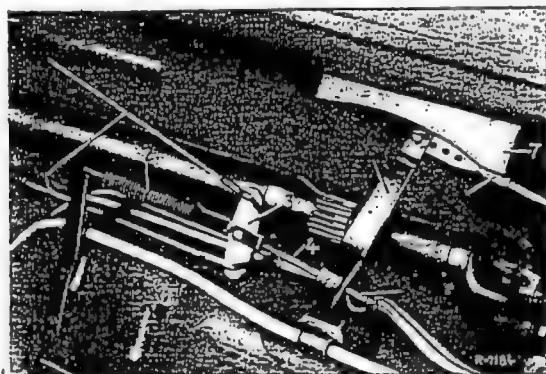

Fig. 42-19/5
2. Loosen the hexagon collar nuts (7) for fastening the cable guides (Fig. 42-19/1), detach the cables (1) from the brackets and from the equalizer (3) (Fig. 42-19/5).
3. Unscrew the bracket (35) of the brake cable (39) from the brake support lever (41) (Fig. 42-19/6).